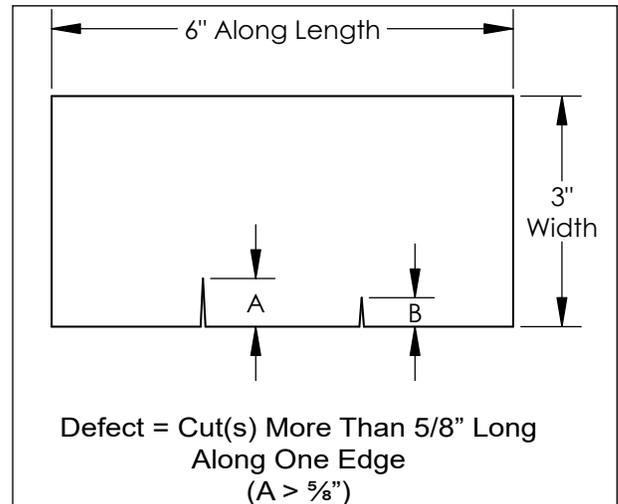

Figure 4 – Strap with Cut(s) Along One Edge
5. Release the ratchet on one of the straps connected at either end of the unit. Remove the strap and stretch it out straight on a flat surface. Inspect the webbing of the strap for damage in 6” long intervals along the length (refer to Figures 4 through 6). If no defect is found in the first strap, repeat this step with each remaining strap, stopping if a defect is found.